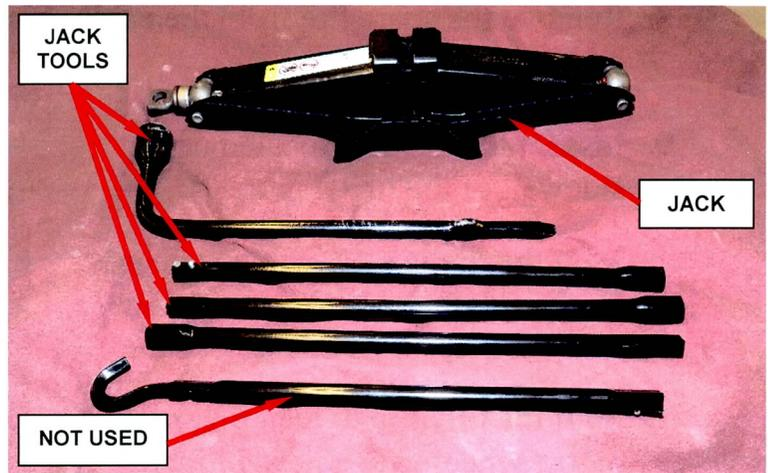

Figure 5 – Disassemble Jack Tools
18. Disassemble the jack tools and return them to the storage pouch (Figure 5).